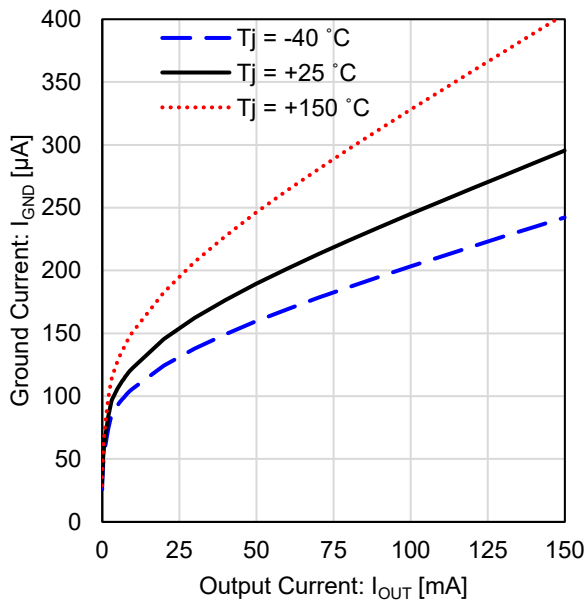

Figure 31. Ground Current vs Output Current
*magnification of Figure 31 at low output current